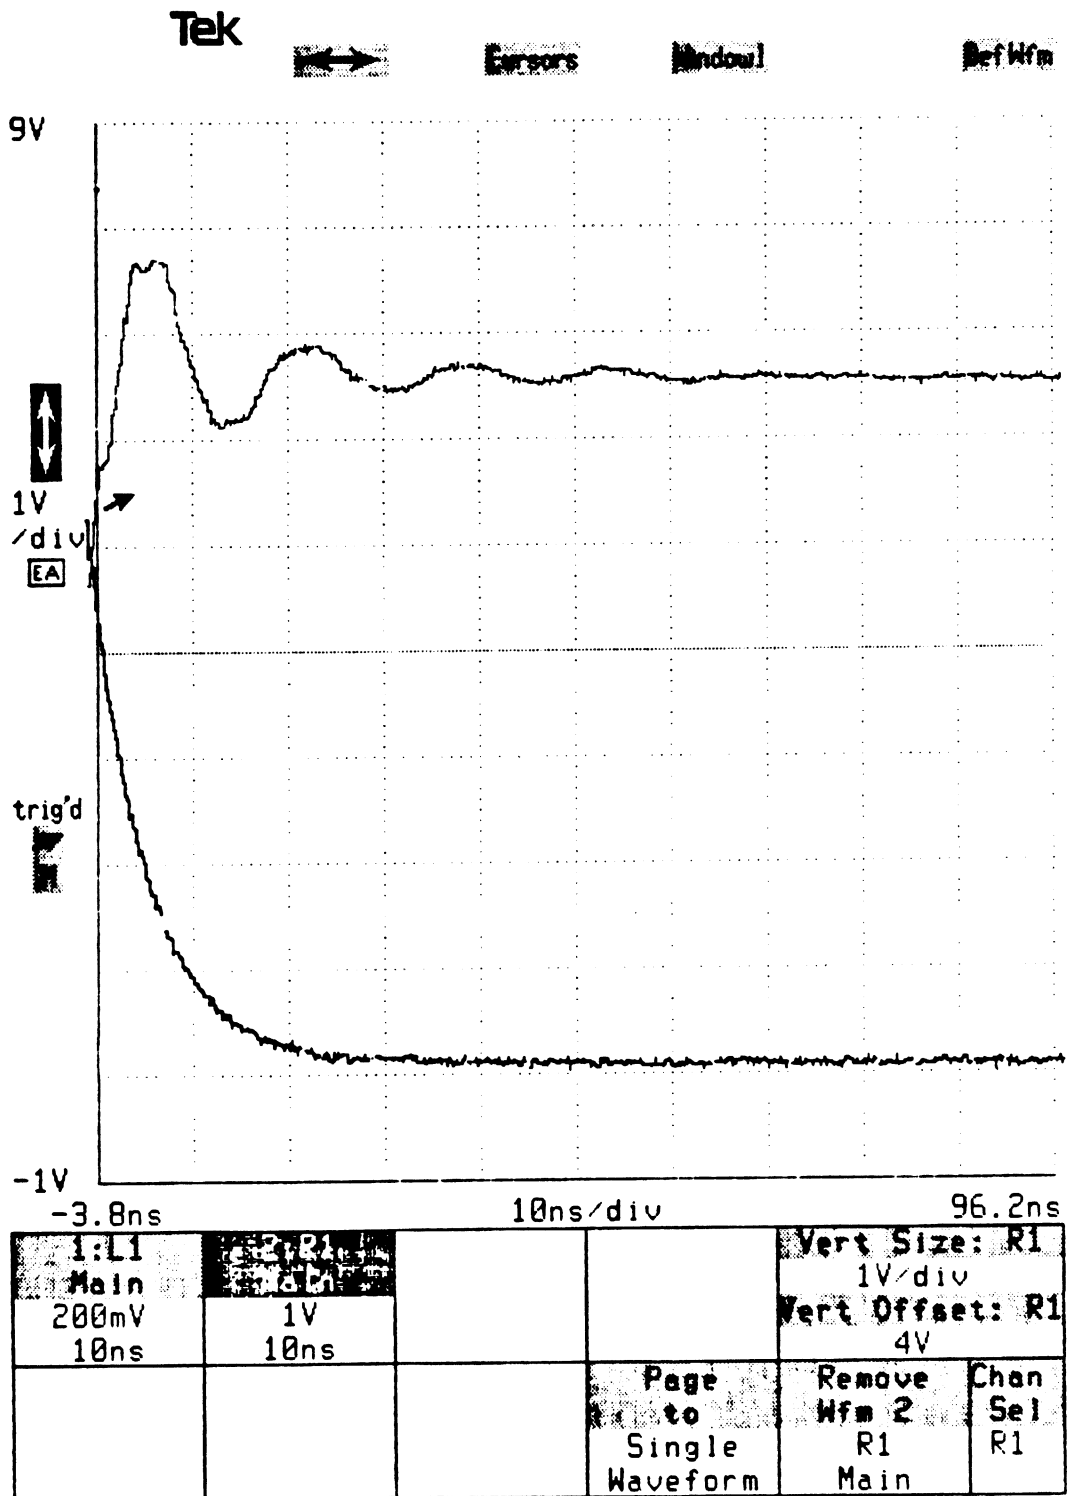

Figure 2.
- l. Set **Main Pos** or **Horiz Pos** to place 50% level (+4 V, t=0) at left edge of graticule (see Figure 2). Make no changes to **Horizontal (Main) Size** or **Pos** during steps m, n and o.